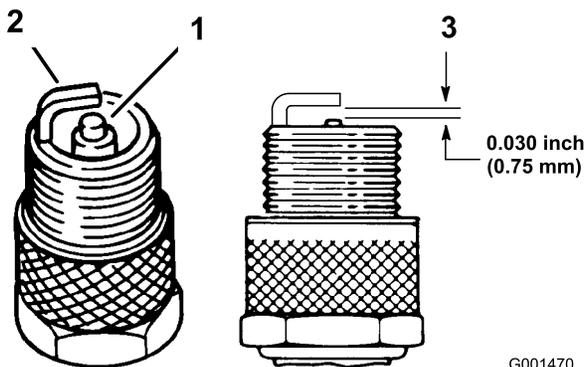

Figure 39
3. Check the gap between the center and side electrodes (Figure 39). Bend the side electrode (Figure 39) if the gap is not correct.
3. Connect the wire to the spark plug (Figure 39).
1. Look at the center of the spark plug (Figure 39). If you see light brown or gray on the insulator, the engine is operating properly. A black coating on the insulator usually means that the air cleaner is dirty.